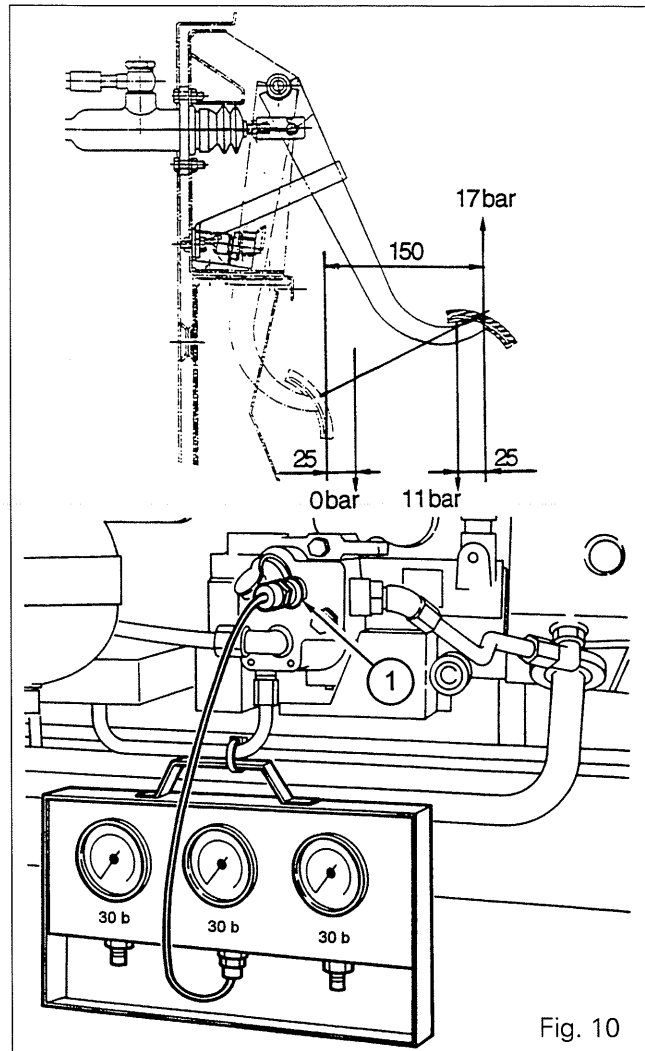

Fig. 10
Modulation is actuated when the pedal has been depressed by about 25 mm. The fully disengaged position is reached 25 mm before the pedal end of travel (Fig. 10).
- On the diagnostic connector (1), connect a pressure gauge (approx. 30 bars) equipped with a coupler 3582045M1 (Fig. 10).